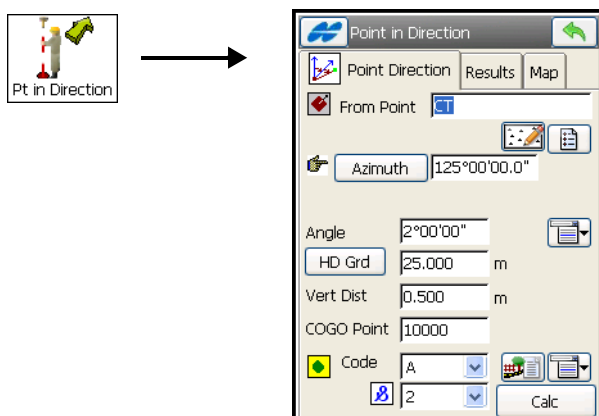

Figure 10-4. Point in Direction
1. On the **Point in Direction** screen (Figure 10-4) enter the *From* point name (known point), the azimuth set by value or as the direction to another known point.